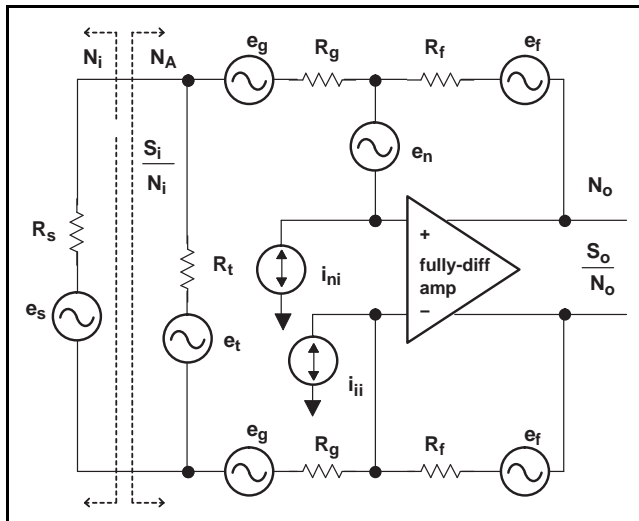

Figure 111. Noise Sources in a Fully Differential Amplifier Circuit
Noise analysis in fully differential amplifiers is analogous to noise analysis in single-ended amplifiers; the same concepts apply. Figure 111 shows a generic circuit diagram consisting of a voltage source, a termination resistor, two gain setting resistors, two feedback resistors, and a fully differential amplifier is shown, including all the relevant noise sources. From this circuit, the noise factor (F) and noise figure (NF) are calculated. The figures indicate the appropriate scaling factor for each of the noise sources in two different cases. The first case includes the termination resistor, and the second, simplified case assumes that the voltage source is properly terminated by the gain-setting resistors. With these scaling factors, the amplifier input noise power (N_A) can be calculated by summing each individual noise source with its scaling factor. The noise delivered to the amplifier by the source (N_i) and input noise power are used to calculate the noise factor and noise figure as shown in Equation 23 through Equation 27.